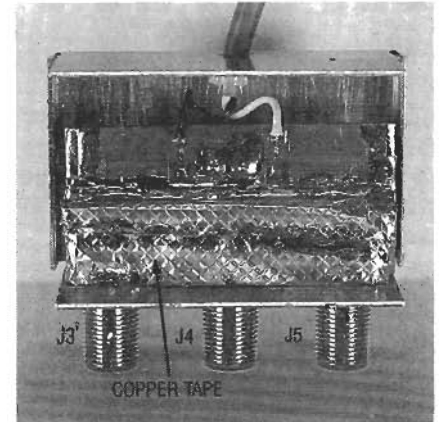

FIG. 10—LOOK AT THE DELICATE WORK needed to construct an RFI shield out of copper tape.
3. Figure 10 shows what the relay module should look like. If you choose to hard wire the relay module, use a double-sided copper board, and a shielded enclosure such as a LMB box chassis, Model No. M00. Another RFI shield should be constructed out of copper tape, and should enclose jacks J3, J4, and J5. Constructing that RFI shield isn't easy. With a small file, remove the plating from the top flat of the nuts securing the coax jacks in place. Figure 11 shows you how that's done. Apply some solder to the flats, and secure a piece of copper-shield tape at a 90-degree angle across the flats, then heat the tape so that the solder melts and adheres to the tape. Be sure to leave enough tape at the ends to bend down and solder to the copper-tape ground shield created earlier.